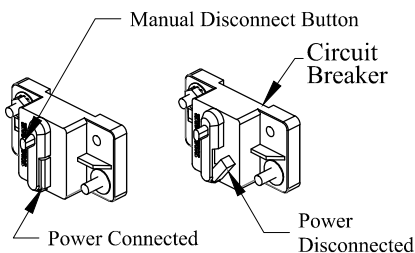

Figure 3: Circuit breaker.
### 2. Disconnect the power cable from the positive side of the battery or **Manually Trip** the circuit breaker (Figure 3).
9. Reconnect the liftgate's power (Figure 3).